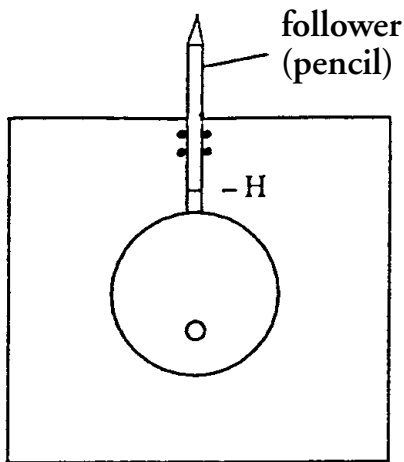

figure 2 (highest point)
6. Center the pen over the line just drawn and tape it lightly to the foam core. Insert two screws on either side of the pen near the top. The screws should hold the pen in place without impeding its vertical motion. This is your *cam follower* (see Figure 2). Remove the tape from the pen.